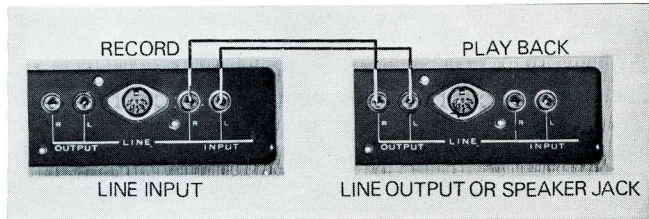

Fig. 30
Connect LINE OUTPUT JACKS or EXTERNAL SPEAKER JACKS of the playback machine to LINE INPUT JACKS instead of step (G) of recording procedure (Fig. 30).